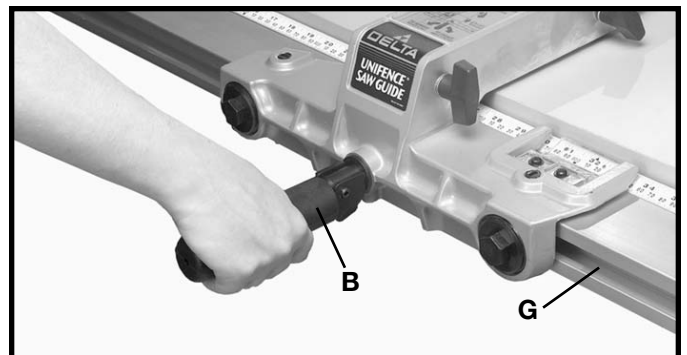

Fig. 64
3. Make sure the handle (B) Fig. 64, is pushed in, then rotate the handle to the right to the positive indent. This will position the clamp bracket in the locking position, and prevent the fence clamp from sliding out of the channel (G).